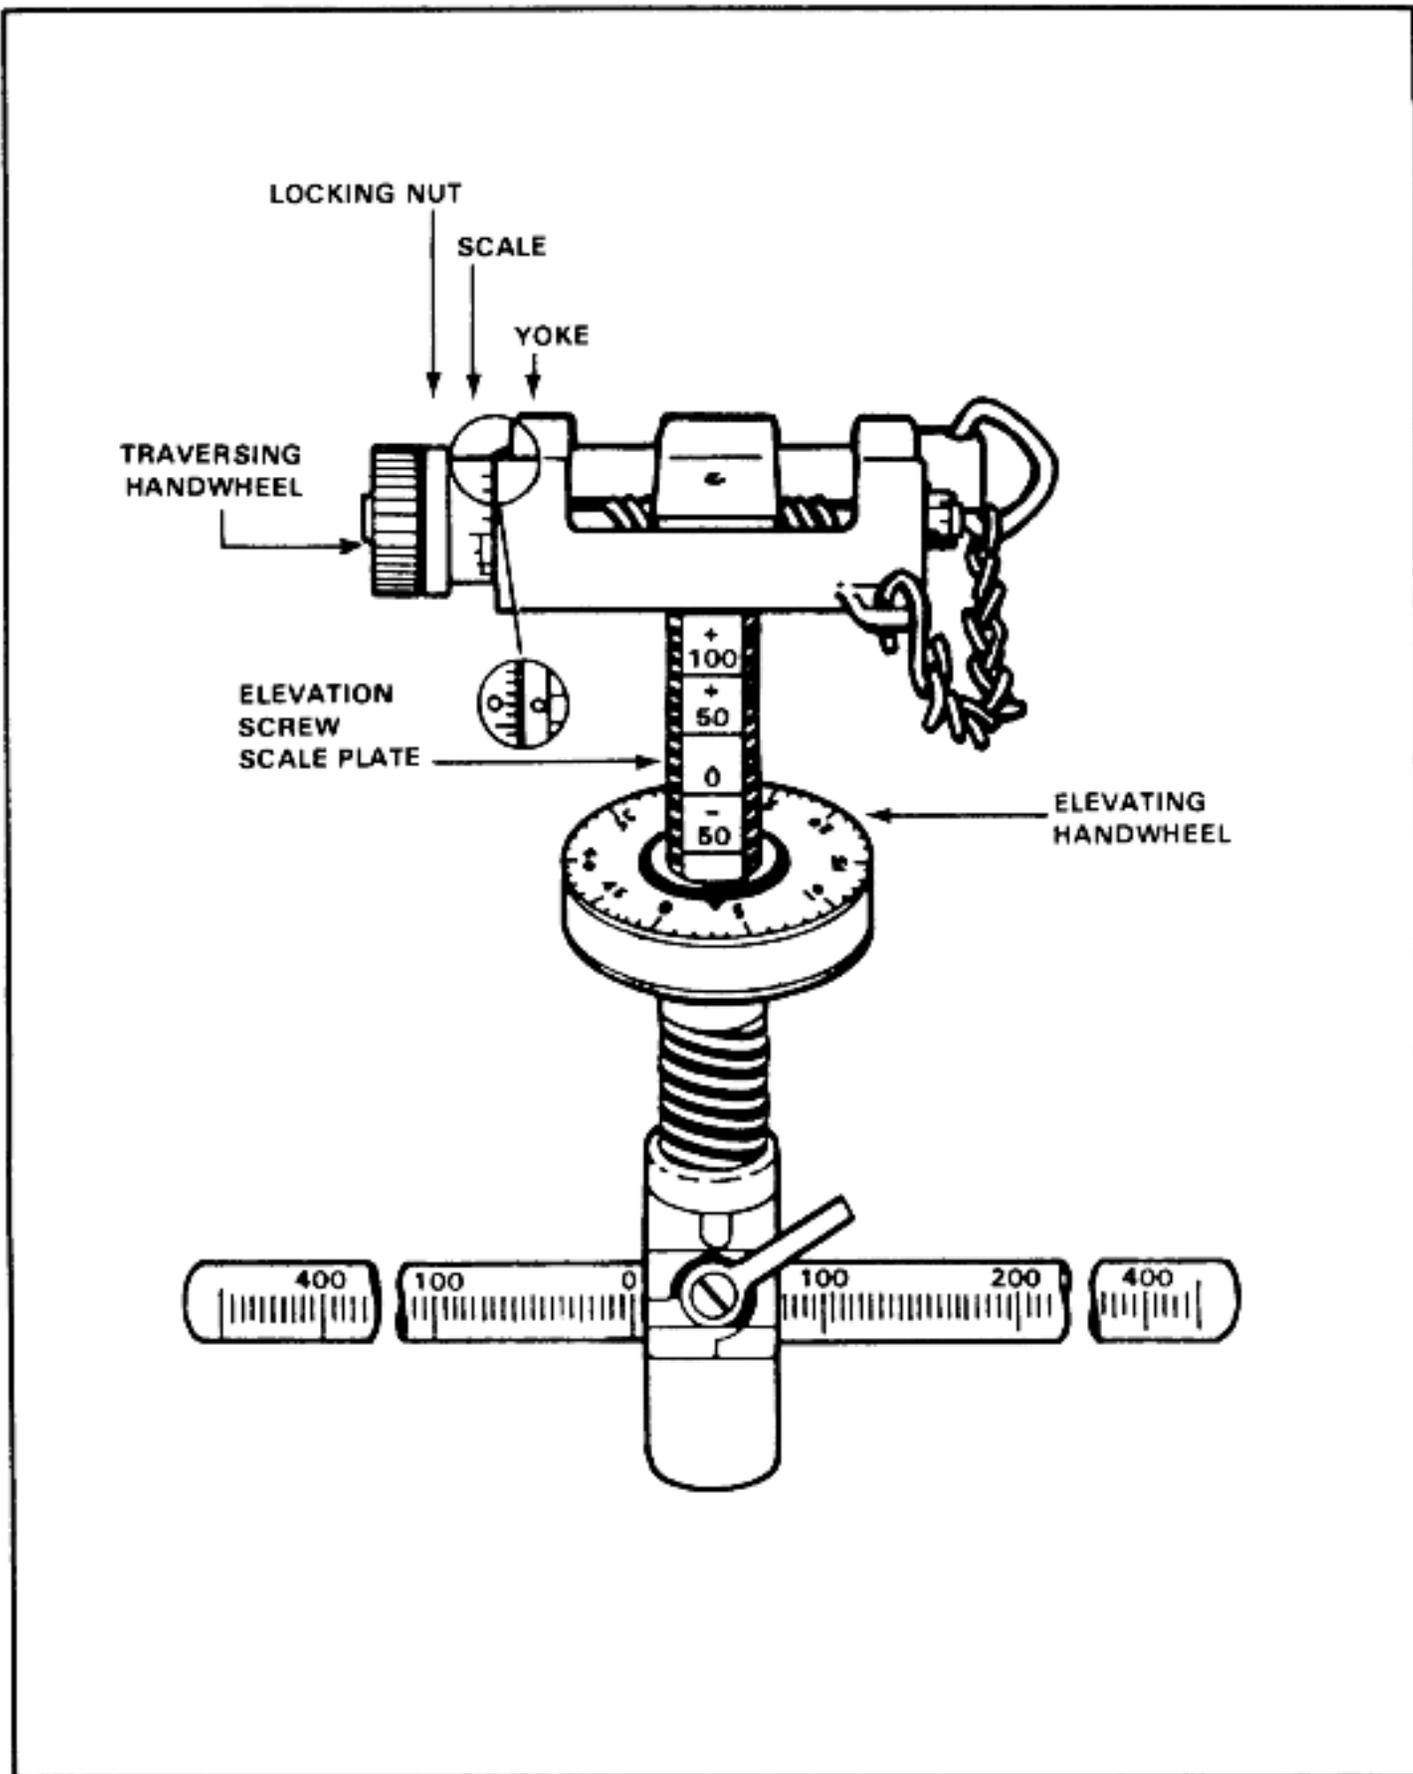

Figure 5-5. Zeroing the T&E mechanism.
- a. Zero the T&E. Before the T&E can be used effectively to engage targets, it must be zeroed (Figure 5-5). Zeroing is a simple process if the following method is used: